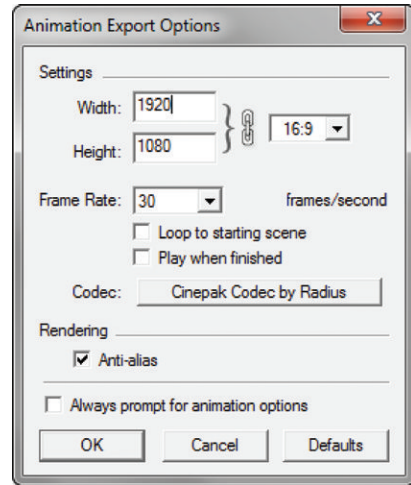

Figure 19.12 Animation export settings
2. Click the Options button at the bottom-left corner of the Export Animation dialog (Figure 19.12).